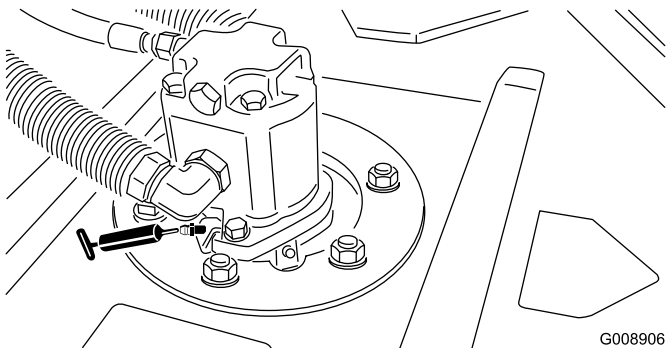

Figure 48
- Cutting unit spindle shaft bearings (2 per cutting unit) (Figure 48)